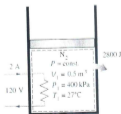

Figure 1. A piston-cylinder device
- d) A piston-cylinder device (see Fig. 1) initially contains 0.5 m^3 of nitrogen gas at 400 kPa and 27°C . An electric heater within the device is turned on and is allowed to pass a current of 2 A for 5 min from a 120-V source. Nitrogen expands at constant pressure, and a heat loss of 3000 J occurs during the process. Determine the final temperature of nitrogen. (15) (CO1) (PO2)